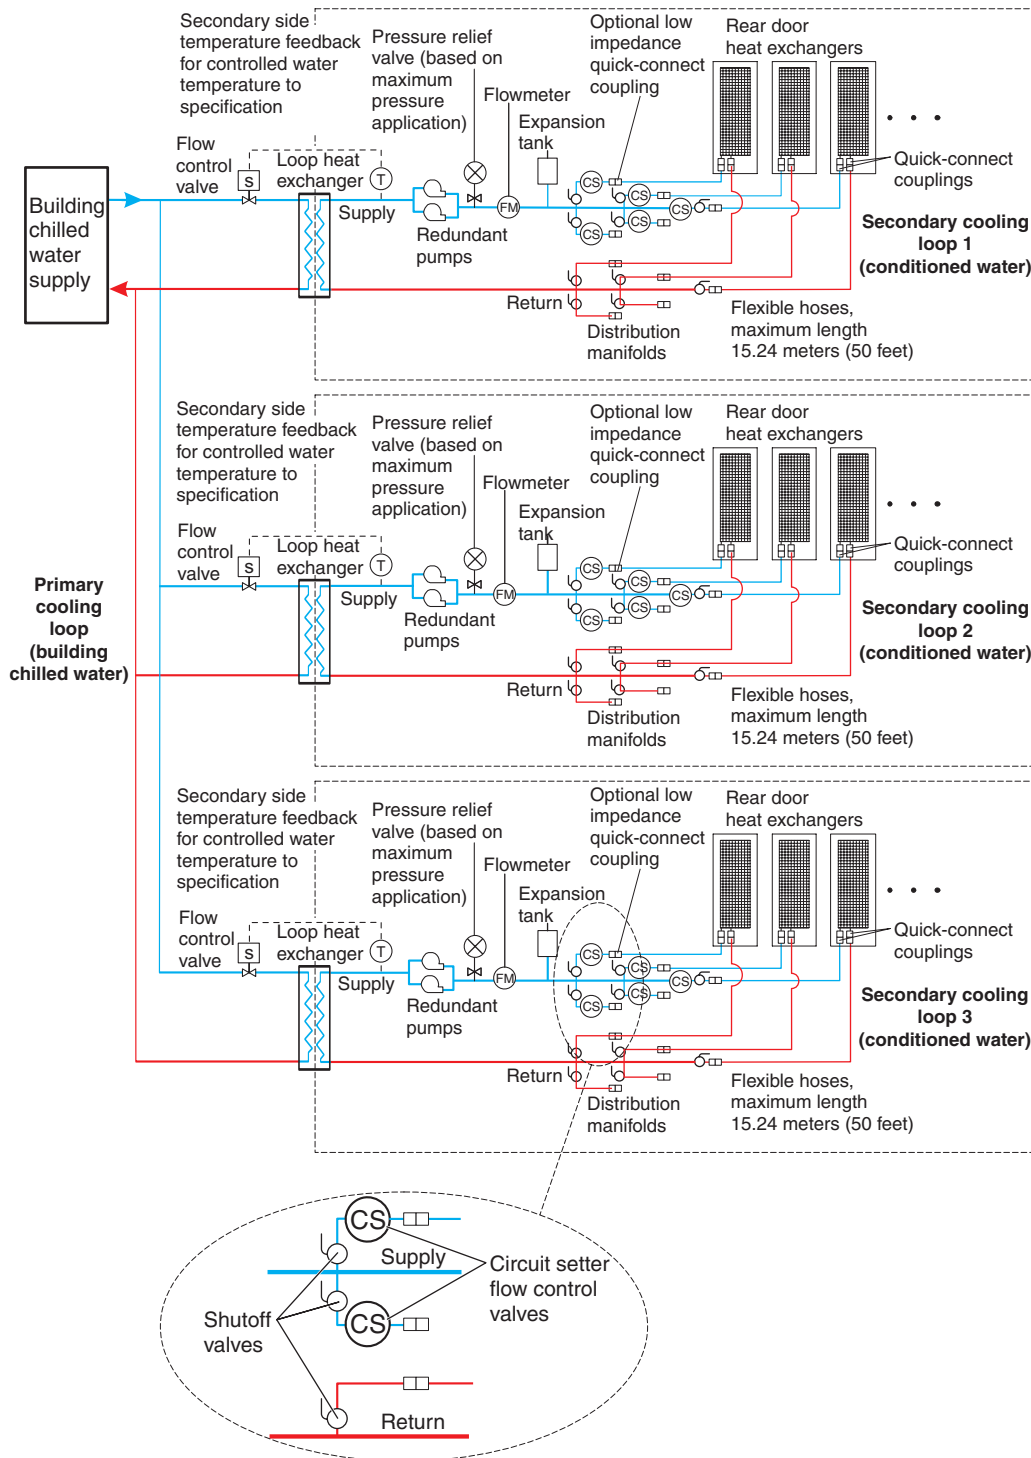

Figure 5. Primary and secondary cooling loops
Figure 5 on page 16 through Figure 8 on page 19 show typical cooling solutions with the most flexibility possible. Read the following guidelines before you design the installation:
- After you set the total flow rate for all of the heat exchangers by using a flowmeter as previously described, it is important to design the plumbing so that it provides the flow rate that you want for each heat exchanger and provides a way to verify the flow rate. Figure 5 on page 16 through Figure 8 on page 19 illustrate the use of circuit setters to adjust the flow rate to each heat exchanger. Other methods, such as inline or external flowmeters, can provide a more accurate method for setting the flow rate through the individual shutoff valves.
- Design the flow loop to minimize the total pressure drop within the flow loop. The Optional Low Impedance Quick Connect feature (shown in Figure 5 on page 16 through Figure 8 on page 19) cannot be the Parker quick-connect couplings that are used on the heat exchanger because of the excessive pressure drop associated with flowing through four quick-connect pairs in series. These must be very low, near 0, flow impedance quick connects. Alternatively, these quick connects can be eliminated and replaced with a hose barb connection.
Figure 5 shows a typical cooling solution and identifies the components of the primary cooling loop and the secondary cooling loop.